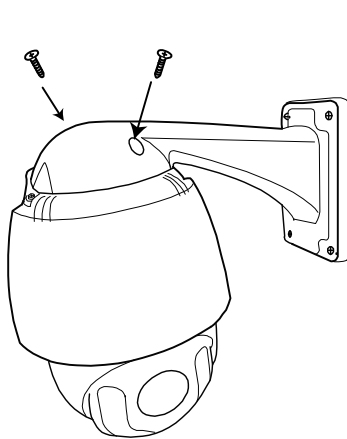

Figure 5
- Step 5: Screw them together. (Please refer to *Figure 5*)